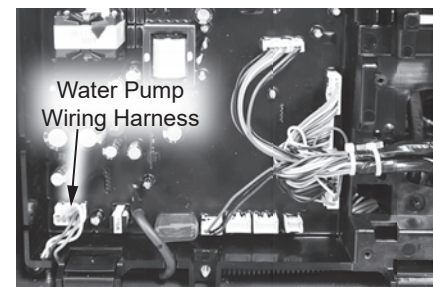

Figure 161 - Water pump wiring harness location
- 14 Locate the water pump wiring harness on the control board panel as shown in Figure 161. Disconnect and route the wiring out of the way for ease of removing the water pump.
- 35** Lift the control board panel up and reconnect the water pump wiring harness previously disconnected in **Step 14**. Slide the wiring through the slot in the circuit board panel as shown in Figure 161. Lower control board panel.